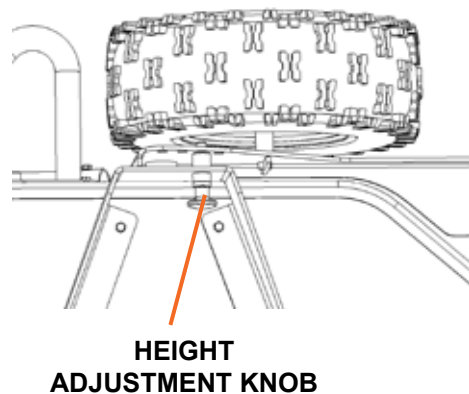

Figure 11
1. To change the cutting height, disengage blades and turn off engine, apply pressure to the height adjustment while pulling the spring-loaded adjustment knob out. Then re-position and release the knob to the desired height in one of the four adjustment notches (see Figure 11). Repeat for the opposite side at the same height level.